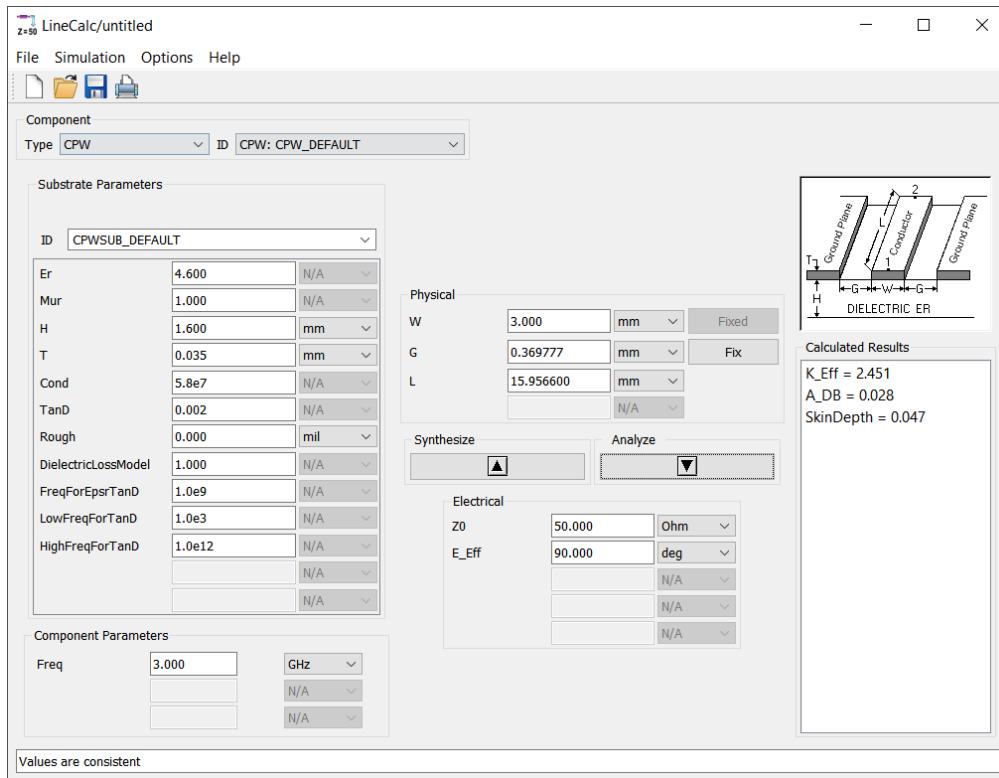

Figure 24. LineCalc for 50  $\Omega$  line
1. Calculate the physical parameters of the CPW T-junction power divider using the parameters from the earlier section. Use LineCalc to synthesis the length, width, and gap of the  $50 \Omega$  ( $Z_0$ ) and  $70.7 \Omega$  ( $\sqrt{2} Z_0$ ) lines. The LineCalc windows are shown in Figures 24 and 25. The physical parameters for the lines are as follows: